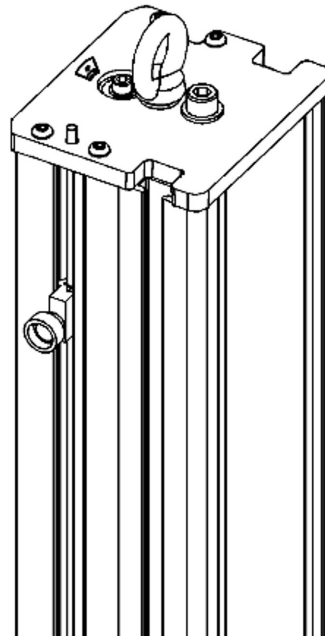

Figure 10. Eyebolt for lifting the frame
7. Insert the crane hook into the eyebolt on top of the frame column Figure 10 on page 58.
*For some systems, the eyebolt is removed prior to shipping. If the eyebolt is missing from your machine, it will be packed in an envelope inside one of the unsealed boxes, usually in the box that contains the system documentation. Screw the eyebolt into the top of the frame column as shown in Figure 10 on page 58.*